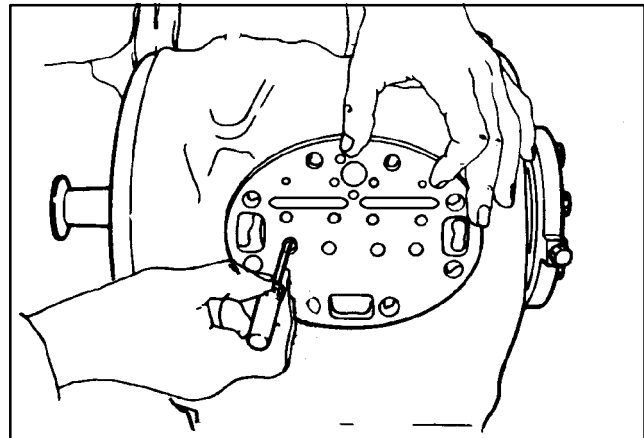

Figure 3-4. Checking Suction Valve
- f. Using a small screwdriver, operate the suction valves to ensure that the valve tips are not being held by the valve plate gasket. (See Figure 3-4)